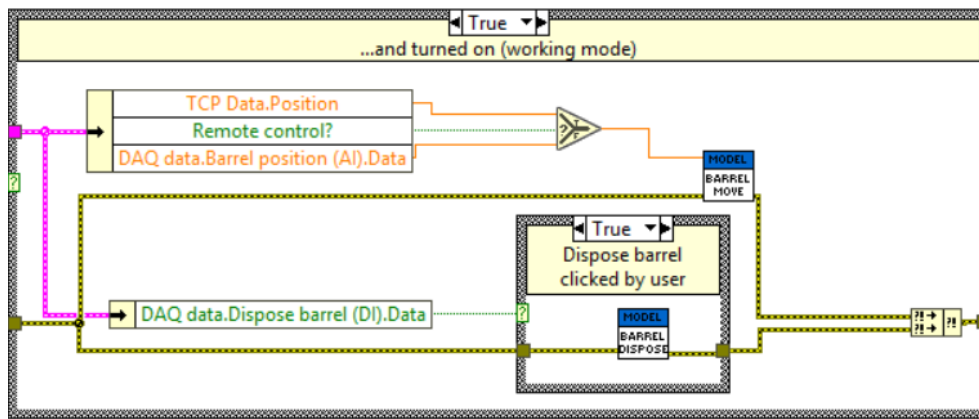

Fig. 2. Part of Read DAQ Data case of PLC
- Analyse UI event in EHL when user clicks **Remote control** boolean button. What happens in **Remote control** case of PLC? Next, skip to **Read DAQ Data** case of PLC and update the code which controls Barrel position of the Model depending on Remote control status (Fig. 2).